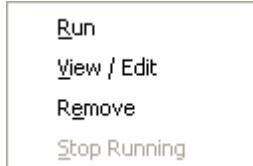

Figure 4.62 Batch file right-click menu
- a) right-clicking a Batch file in the Project Workspace window (Scripts tab) to invoke the pop-up menu shown in figure 4.62;
- a) right-clicking the batch file in the Project Workspace window (Scripts tab) to invoke the pop-up menu shown in figure 4.62.
- a) right-clicking the running batch file in the Project Workspace window (Scripts tab) to invoke the pop-up menu shown in figure 4.62.
- a) right-clicking on the batch file to remove in the Project Workspace window (Scripts tab) to invoke the pop-up menu shown in figure 4.62.